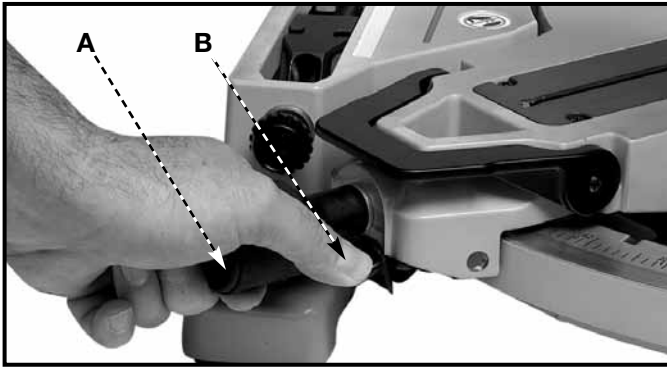

Fig. 13
1. The compound miter saw will cut any angle from a straight 0° cut to 48° right and left. Turn the locking knob (A) Fig. 13 counterclockwise, depress the lock lever (B), and rotate the table to the desired position.